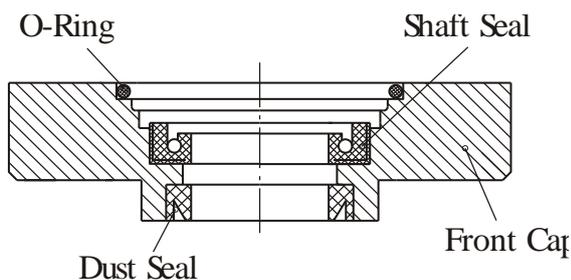

Fig. 6
11. Remove with screwdriver Dust seal and Shaft seal from Front cap (see Figure 6). Work from outer side for both seals.